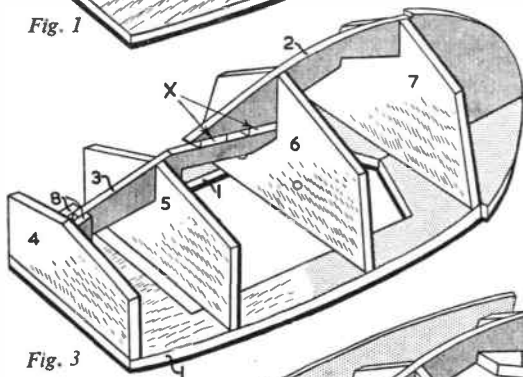

Fig. 3
Now glue the keel in position as shown in Fig. 3, adding the spacers (8) near the transom. The pieces (X) can be removed after the cement has dried.